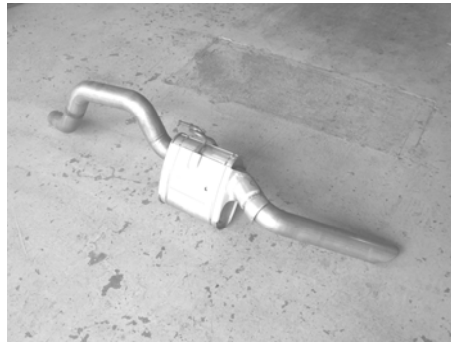

Figure 4
7. Using a muffler stand or an additional person to hold the rear muffler/tail pipe assembly in place, remove the hanger from the rubber bracket and remove the rear muffler/tail pipe assembly shown in figure 4 from the vehicle.